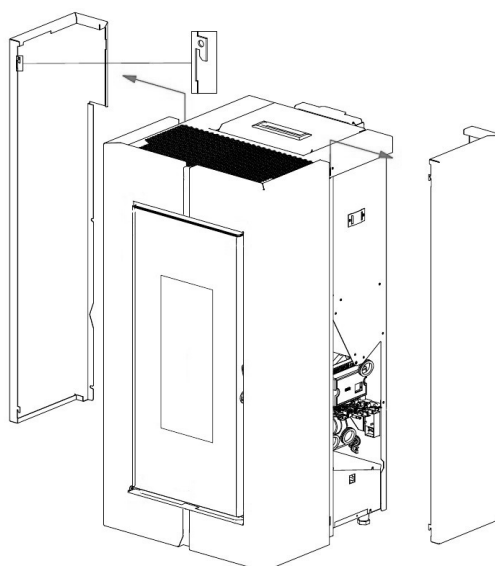

Fig. 53 - Desprender as laterais
- Desprender as laterais traseiras (ver **Fig. 53**).